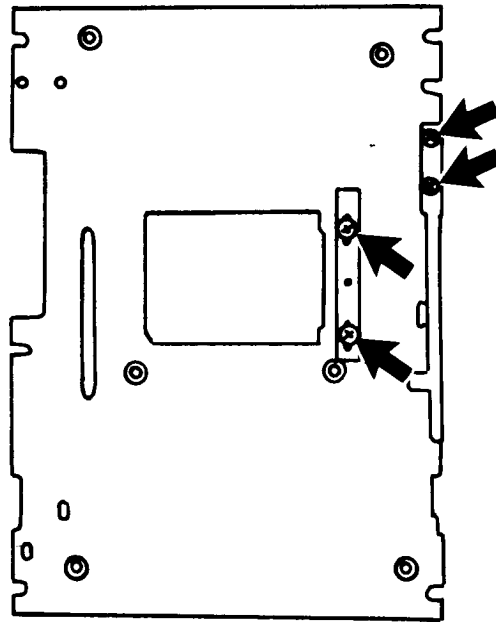

Figure 4-19 Removing Latch Mechanism and Camera Back Stop Screws
- 6.1 Remove the two screws holding it. (Fig. 4-19)
- 7.1 Remove the two screws holding it. (Fig. 4-19)